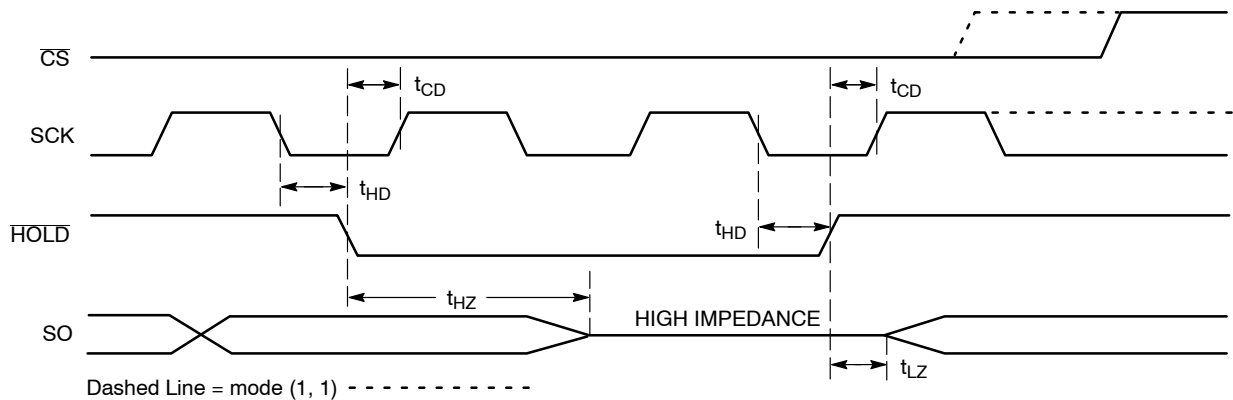

Figure 11. $\overline{\text{HOLD}}$ Timing
The $\overline{\text{HOLD}}$ input can be used to pause communication between host and CAT25512. To pause, $\overline{\text{HOLD}}$ must be taken low while SCK is low (Figure 11). During the hold condition the device must remain selected ($\overline{\text{CS}}$ low). During the pause, the data output pin (SO) is tri-stated (high impedance) and SI transitions are ignored. To resume communication, $\overline{\text{HOLD}}$ must be taken high while SCK is low.